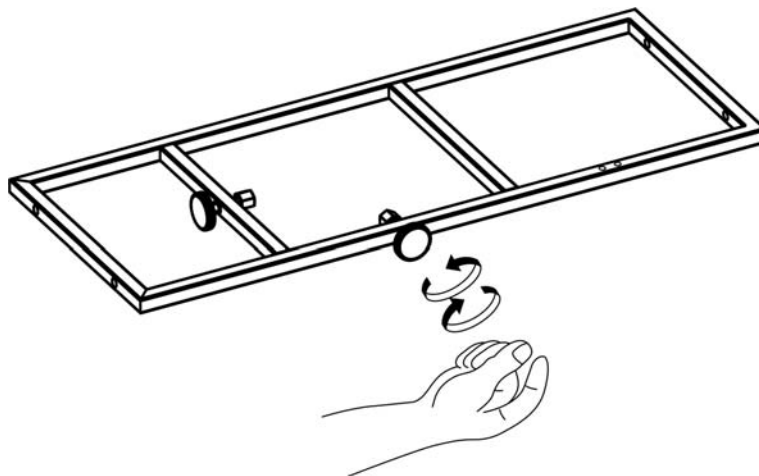

Figure 7
8. Tighten threaded knobs (L) found on tank tray (Figure 7) so that the LP tank cannot move from side to side. Do not remove plastic cap from end of threaded section.